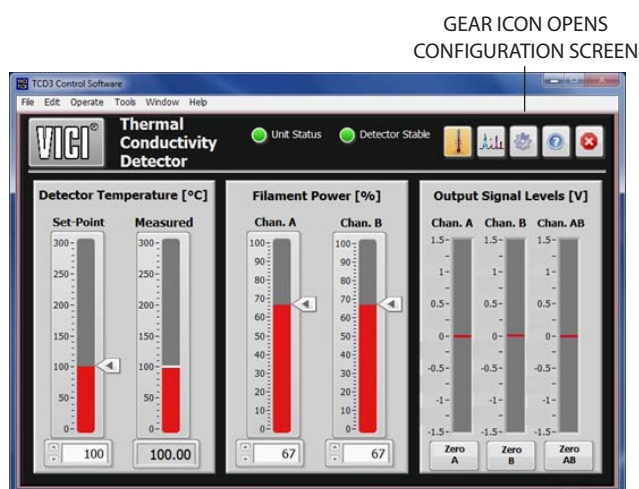

Figure 9: Control screen
2. Find TCD-3 Control GUI on the Windows Start menu and click to open it. After the splash screen, the Control screen (**Figure 9**) will appear.